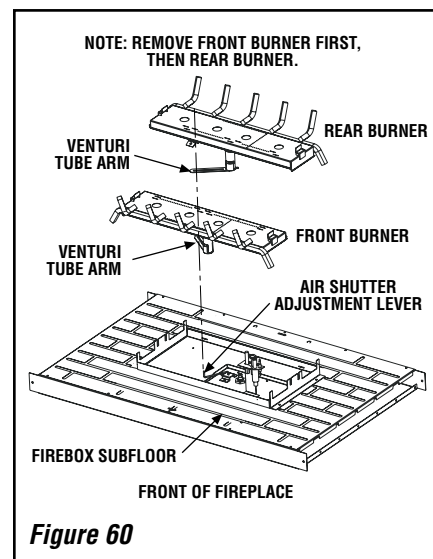

Figure 60
Step 4. Refer to **Figure 60**. Remove the front burner and then the rear burner.
Step 9. (Refer to **Figure 60** on **Page 35** and **Figure 65** on **Page 37**)
B. Install rear burner first, followed by front burner, as shown in **Figure 66** on **Page 37**. Ensure that the arm of the venturi of each burner is hooked onto the air shutter adjustment lever (refer to **Figure 60** on **Page 35**). The primary air opening can be adjusted by rotating the adjustment lever from beneath the firebox floor. Refer to **Figure 57** on **Page 31** for the recommended minimum primary air opening setting.